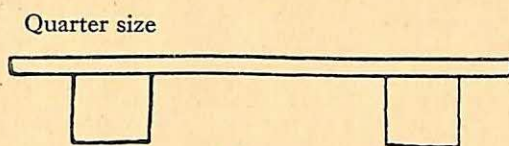

Fig. 2
4. STAND. Glue and nail the axle blocks in position (see Fig. 2). Bore two holes to take the ends of the wire hinge; adjust it and test movement. The ends must be clenched on under side to keep it in place, but do not do this yet. Glue and nail 'bush' in position.